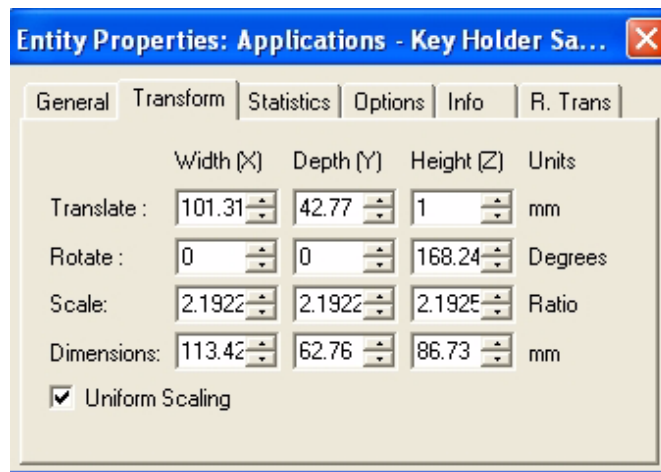

Figure 5-16: *Entities Properties* dialog box, *Transform* tab
2. Display the *Transform* tab or the *R. Trans.* tab of the *Entities Properties* dialog box (see figures 5-16 and 5-17 on page 5-12):